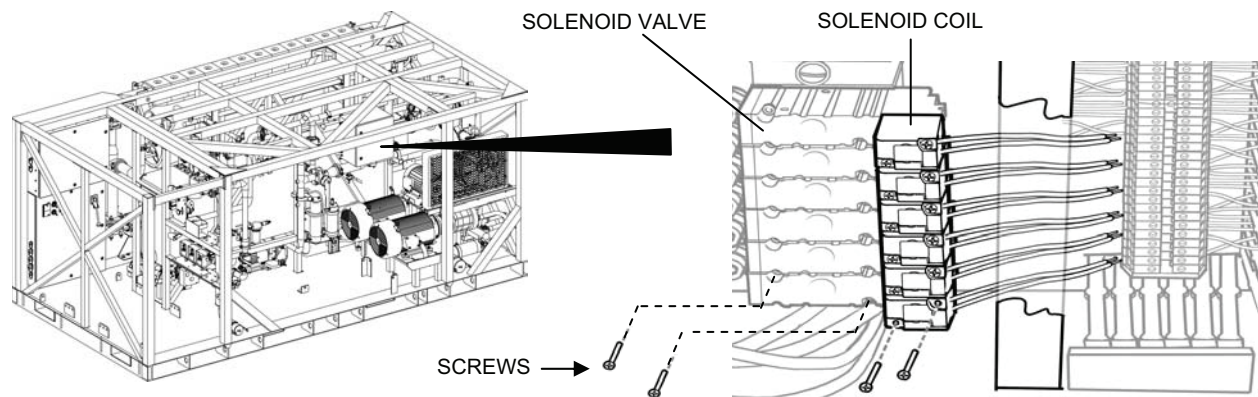

Figure 11. Solenoid Valve Replacement.
2. Remove a solenoid valve as follows (see Figure 11):